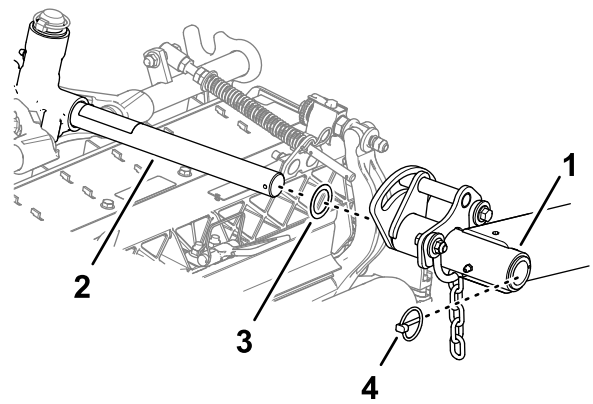

Figure 30
3. Slide a cutting unit under the lift arm (Figure 30).